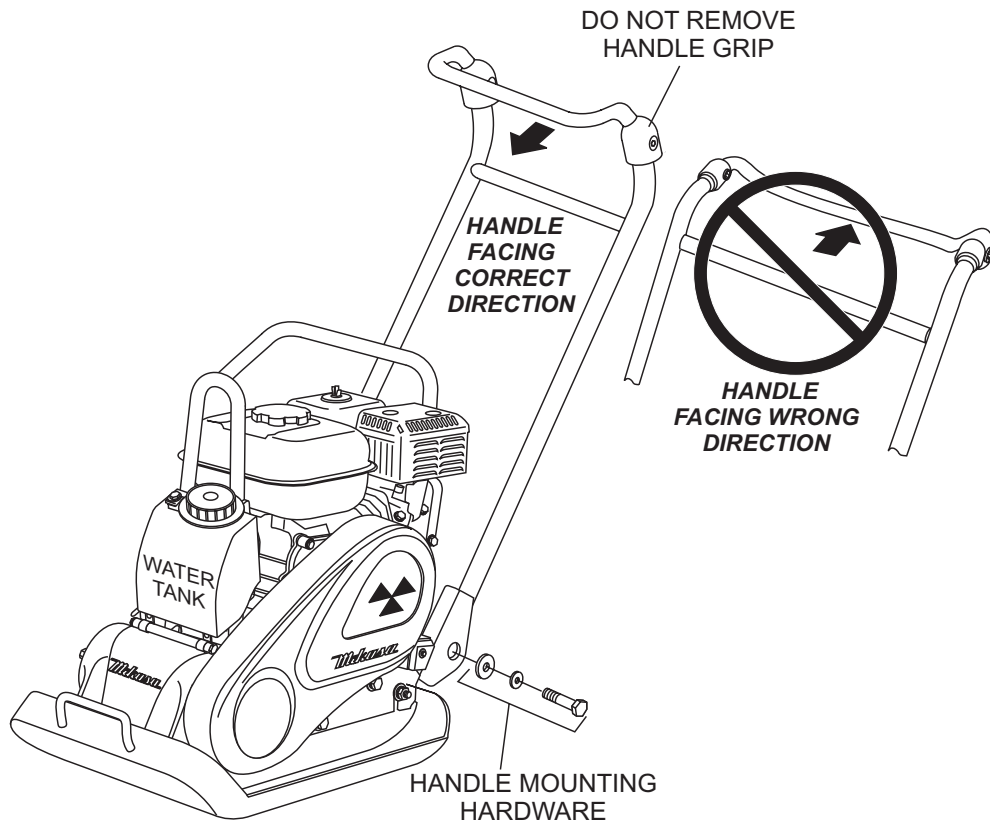

Figure 1. Installation of Anti-Vibration Handle
1. Remove the bolts and washers (handle mounting hardware) from both sides of the plate compactor (Figure 1).
2. Position the anti-vibration handle over the compactor. **Make sure that the handle is facing the correct direction as shown in Figure 1.** The handle will not work properly if installed in the wrong direction.